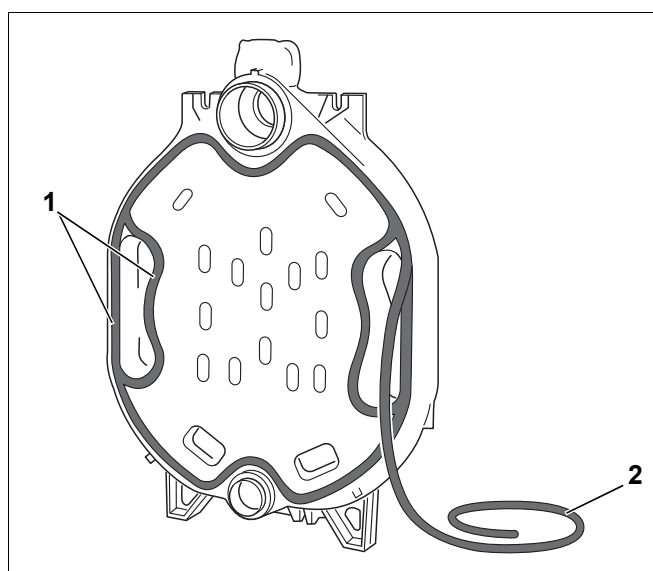

Fig. 11 Fitting the sealing cord (KM string)
- Insert the elastic sealing cord (KM string: Fig. 11, [2]) into the packing groove at the front of the rear section, beginning in the hub area (→ Fig. 11, [1]) and lightly press home. Overlap the sealing string by 2 cm and press firmly together.